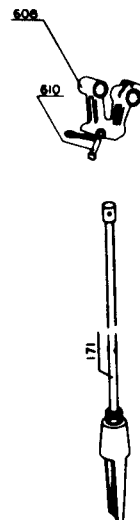

FIGURE 6
10. Install the #171 pump rod up through base of mast pipe, remove cotter and pin #610 in #608 yoke and position top end of #171 pump rod into bottom of yoke, insert pin thru yoke and pump rod, insert cotter key and spread (Figure 6).